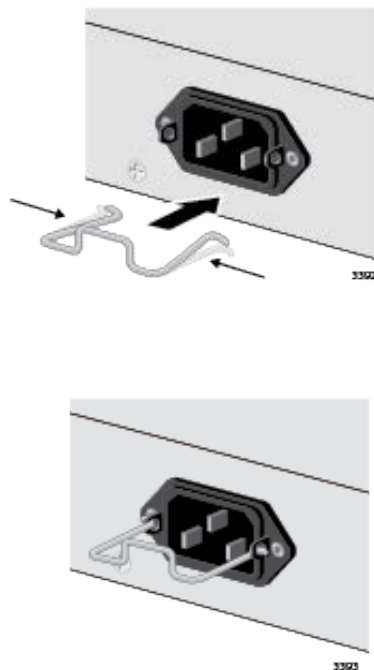

Figure 63. Installing the Power Cord Retaining Clip
1. Install the power cord retaining clip on the AC power connector on the rear panel of the switch, as shown in Figure 63.